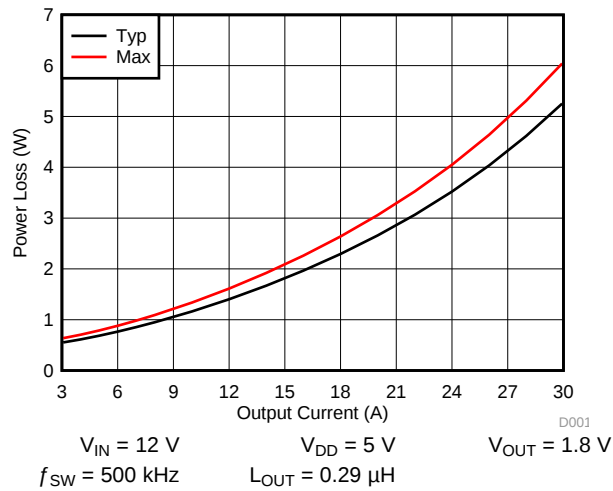
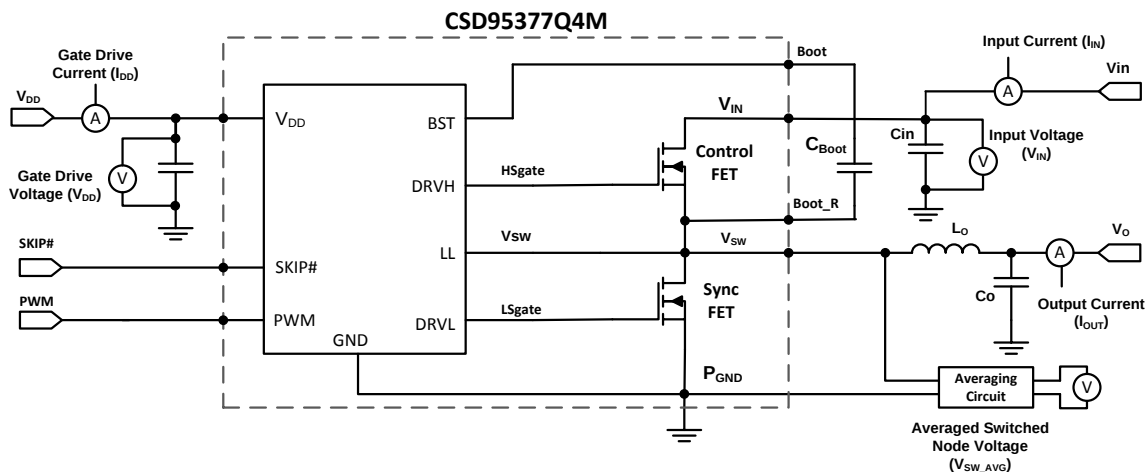

Figure 4. Power Loss vs Output Current
Figure 14. Power Loss Test Circuit
MOSFET-centric parameters such as $R_{DS(ON)}$ and Q_{gd} are primarily needed by engineers to estimate the loss generated by the devices. In an effort to simplify the design process for engineers, Texas Instruments has provided measured power loss performance curves. Figure 4 plots the power loss of the CSD95377Q4M as a function of load current. This curve is measured by configuring and running the CSD95377Q4M as it would be in the final application (see Figure 14). The measured power loss is the CSD95377Q4M device power loss which consists of both input conversion loss and gate drive loss. Equation 1 is used to generate the power loss curve.
The power loss curve in Figure 4 is measured at the maximum recommended junction temperature of $T_J = 125^\circ\text{C}$ under isothermal test conditions.
- Typical Power Loss at 20 A = 2.66 W (Figure 4)